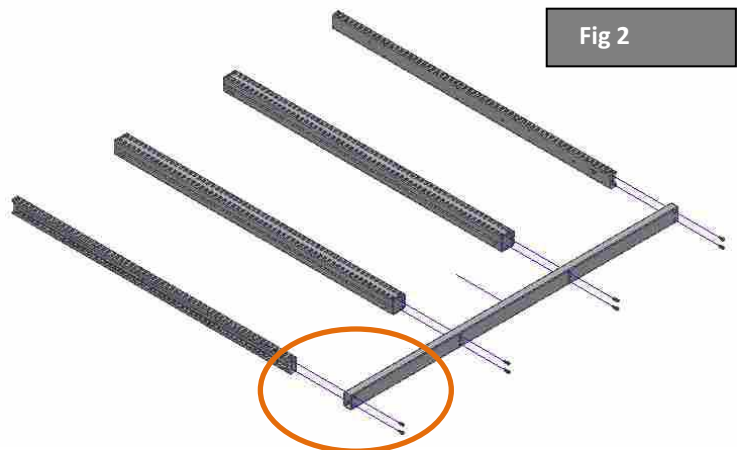

Fig 2
STEP 1 – Position the **grooved bars** (the wide part of the groove must be facing upwards and the narrow part downwards) and the bottom bar (Fig. 2).